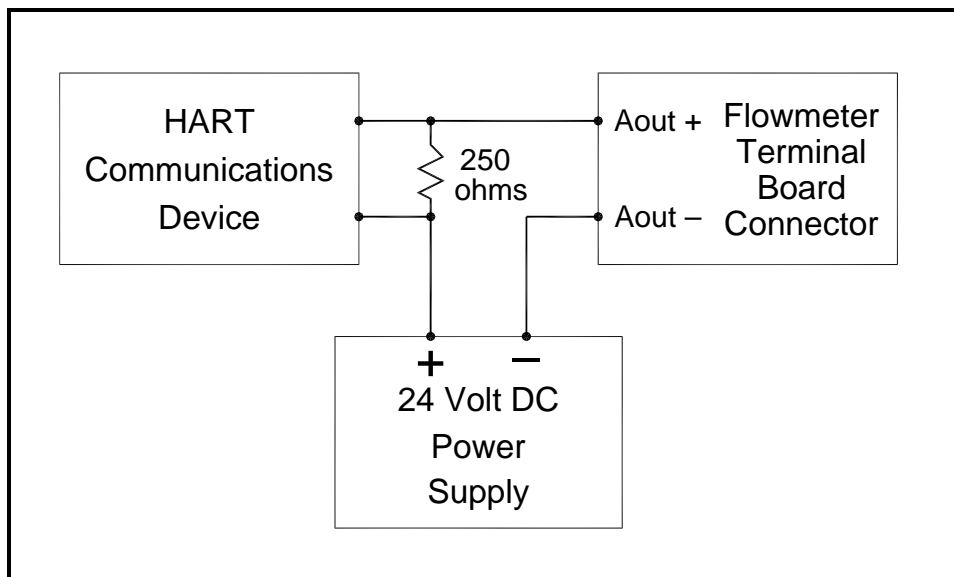

Figure 219: HART Wiring (Ext. Supply/Passive Mode)
1. Interconnect the HART interface and the HART device as shown in Figure 219 below.